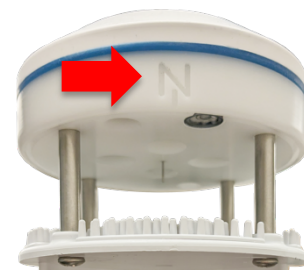

Figure 17. "North" mark on wind sensor
2. In the northern hemisphere, face the solar panels toward the south and the "N" on the wind sensor (Figure 17) should face north. In the southern hemisphere, face the solar panels toward the north and the "N" on the wind